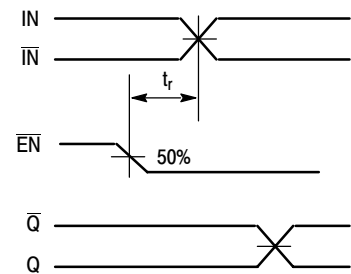

Figure 5. Release Time
19. The release time is the minimum time that \overline{EN} must be deasserted prior to the next IN/ \overline{IN} transition to ensure an output response that meets the specified IN to Q propagation delay and output transition times (Figure 5).